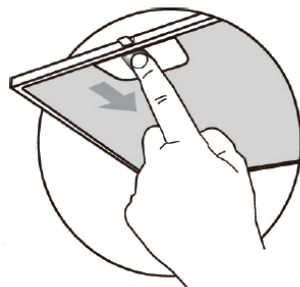

Fig. 3
1. Remove the metal filters as shown in Fig. 3. If they are fitted with carbon filters, remove these filters.
1. Remove the metal filters as shown in Fig. 3. If they are already fitted with carbon filters, replace them together with the carbon filters.